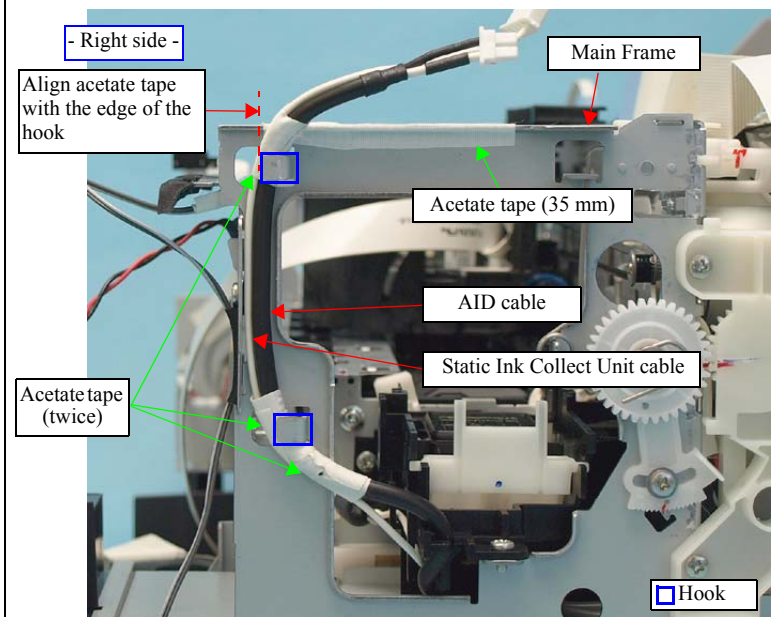

Figure 4-243. Installing the Ink System (2)
- Wrap three pieces of acetate tape around the Static Ink Collect Unit cable and the AID cable. (See Figure.4-243.)
- Attach acetate tape (35 mm) on the edge of the Main Frame. (See Figure.4-243.)